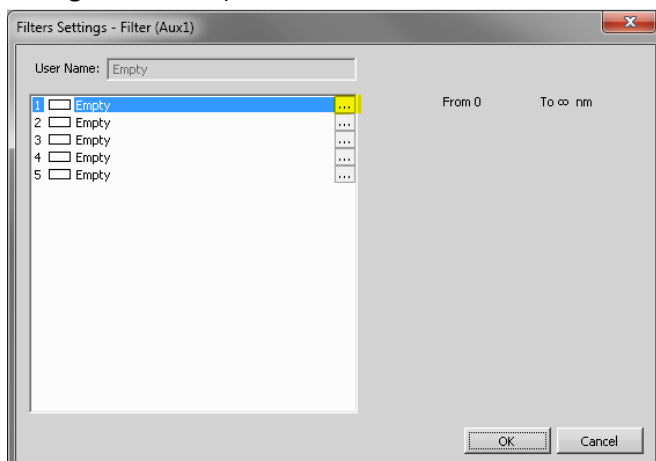

Figure 9
5. Click the Edit box on the far right side of the filter name. This brings up the filter edit panel. (See Figure 9 below)